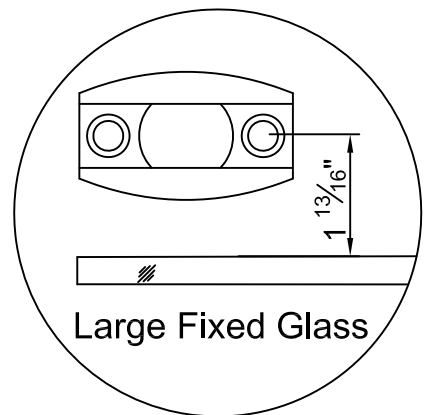

Fig. 21
21. Position the Sliding Door Track Divider (8) into position as seen in Fig.21 and mark the 2 shower base hole positions.
Note: In Fig.21 the hole locations for attaching sliding door track divider should be $1 \frac{13}{16}$ " from edge of Large Fixed Glass (3).
See Fig.21 for details.